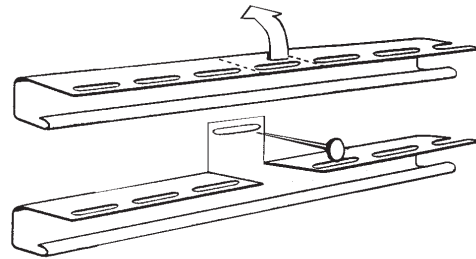

Figure 68.
- If no soffit receiver is available for a situation best suited for the product, the J-channel can be modified to create an F-receiver (Fig. 68).
- Simply cut slots in the nail flange area where it would be nailed to the wall (Fig. 68). After cutting the nail flange, bend the flange back and nail it to the wall.